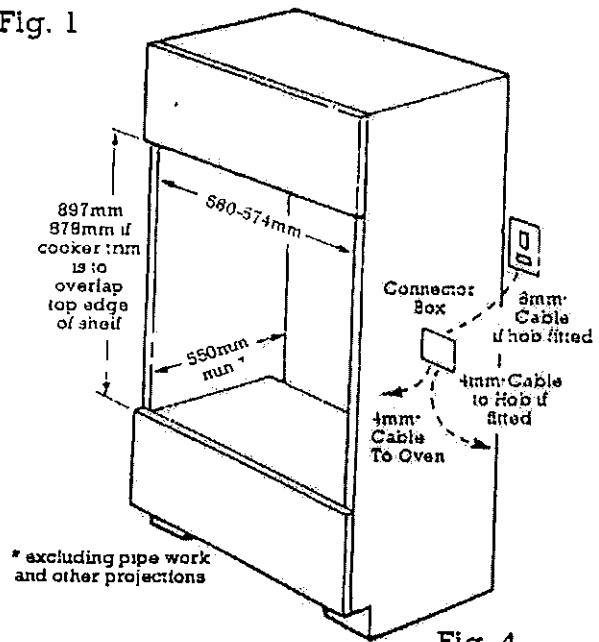

Fig. 4
- a. The oven housing unit cabinet dimensions must comply with Fig. 4.